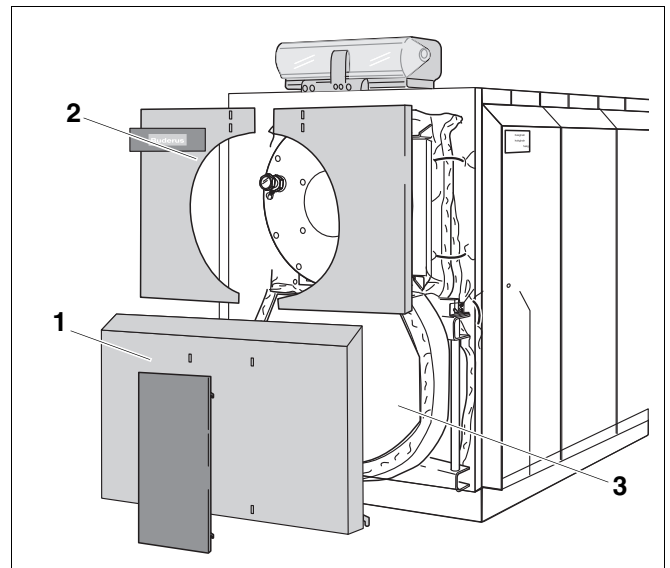

Fig. 2 Logano plus SB735 Gas condensing boiler
- Boiler casing [2], thermal insulation [4], burner door casing – (Fig. 2, [2]) and return bonnet cladding (Fig. 2, [1])